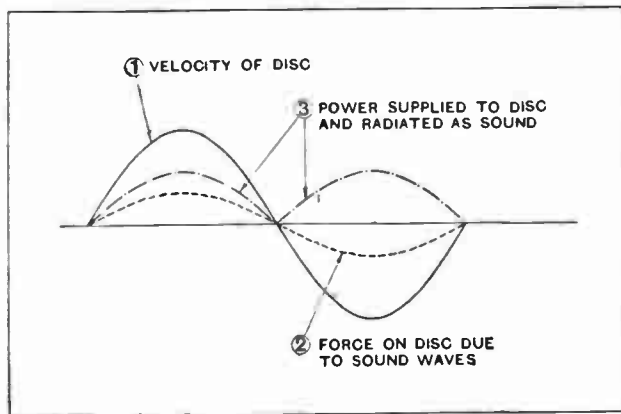
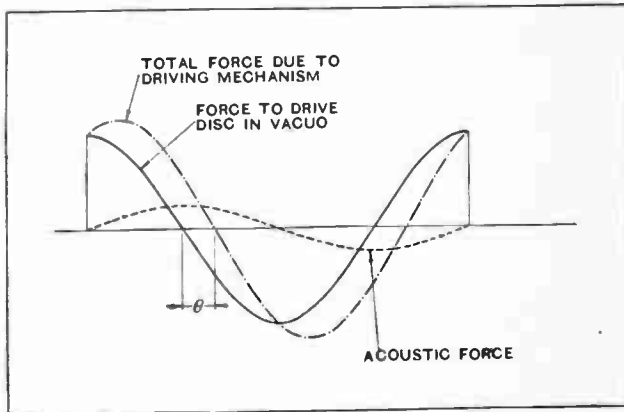

Fig. 5.—Curve of power radiated as sound.
Fig. 6.—Total force acting on the disc in vibration.
effective resistance of the winding. Moreover, a large energy loss is expended in the winding to make the disc vibrate and to do no external work at all. When the disc vibrates in air at normal pressure the force upon it due to the air resistance is so small as to be negligible in comparison with that required to make the disc vibrate in vacuo. The reason for this is to be found in the low density of the air compared with that of the vibrating parts. We now begin to see more clearly why a loud-speaker is inefficient. When the disc vibrates in air an additional force is required from the driving mechanism to overcome the resistance due to the work done in generating sound waves. This force is proportional to the velocity of the disc and is in phase with it. Curve (2) of Fig. 5 shows the velocity of the disc and the corresponding acoustic force on the disc. As we have seen above, power
is the product of force and velocity, and a third curve showing this has been drawn. This is the power radiated as sound waves. It should be noted that the power during both half-cycles is *positive*. Although the force and velocity are both negative in the second half-cycle the product is of course positive, *i.e.*, power is radiated during each half-cycle. The total force acting on the disc is of course the sum of curve (2). Fig. 5, and the full line curve of Fig. 4. This is shown in Fig. 6, from which it will be seen that the force curve is still a sine wave, but it is now displaced to the right by an amount depending upon the pressure or force on the disc due to sound waves. In practice the displacement is comparatively small.